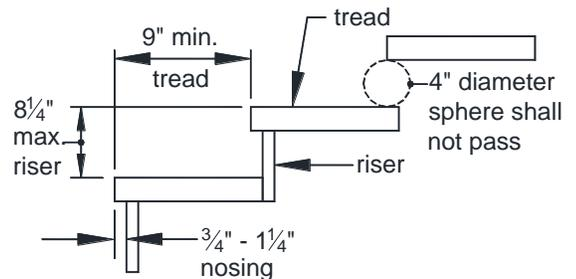

FIGURE 38: TREADS AND RISERS
- Stair geometry and opening limitations shall meet the requirements shown in FIGURE 38. Treads, risers and nosing dimensions shall not deviate at each step by more than 3/8 inches.